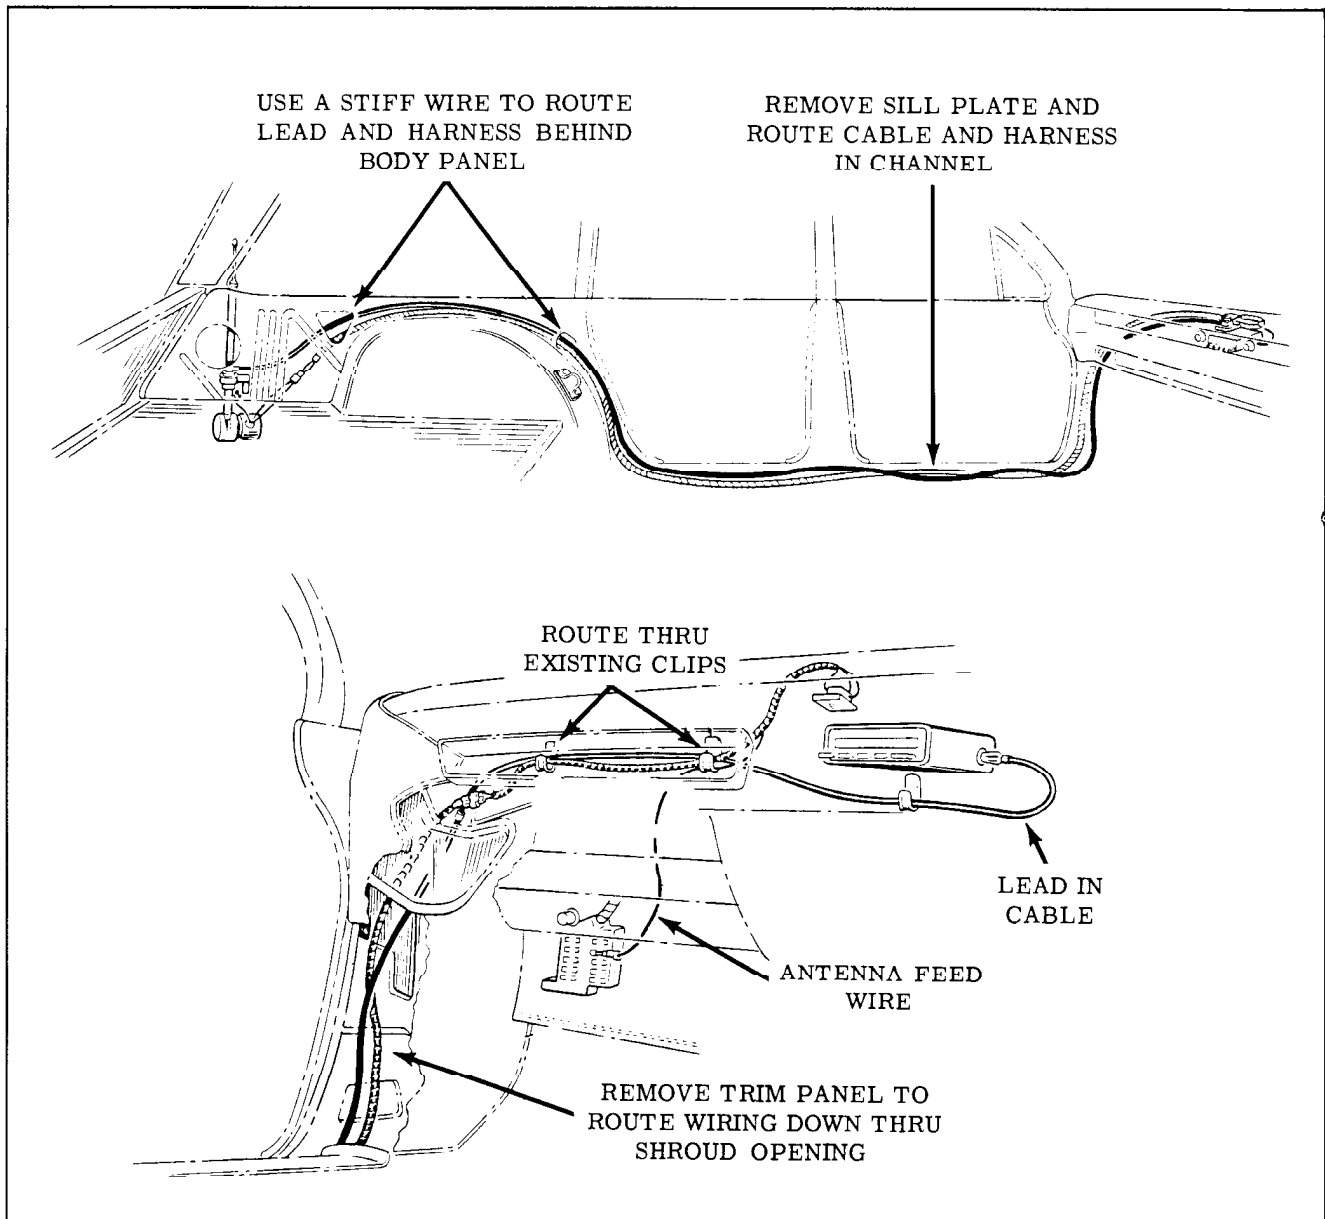

Fig. 15-24 Power Antenna Lead-In (Fiestas)
4. To install, reverse the removal procedure and route and retain the lead-in as shown in Fig. 15-24.